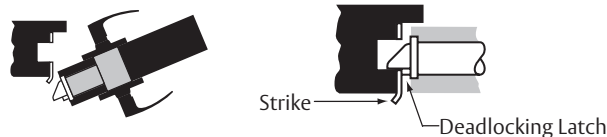
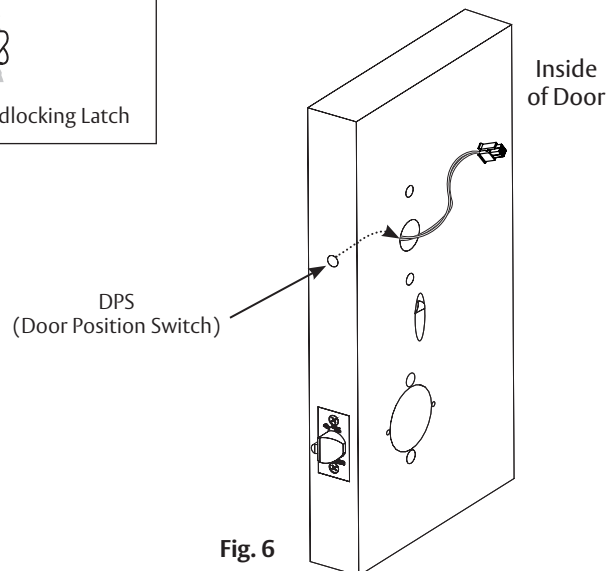

Fig. 5
Fig. 6
- a. Install latch with beveled bolt facing strike. (Fig. 5)
- b. Attach with two (2) screws but DO NOT tighten completely at this time. (See 8. Secure lock to door)
4. Install door position switch (Fig. 6).